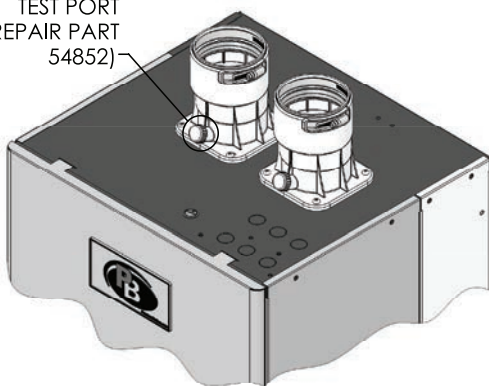

Figure 9.2: Combustion Test Port Location
- a. Using a combustion analyzer with the capability to read carbon dioxide (CO₂) and carbon monoxide (CO), place the probe into the combustion test port. See Figure 9.2.